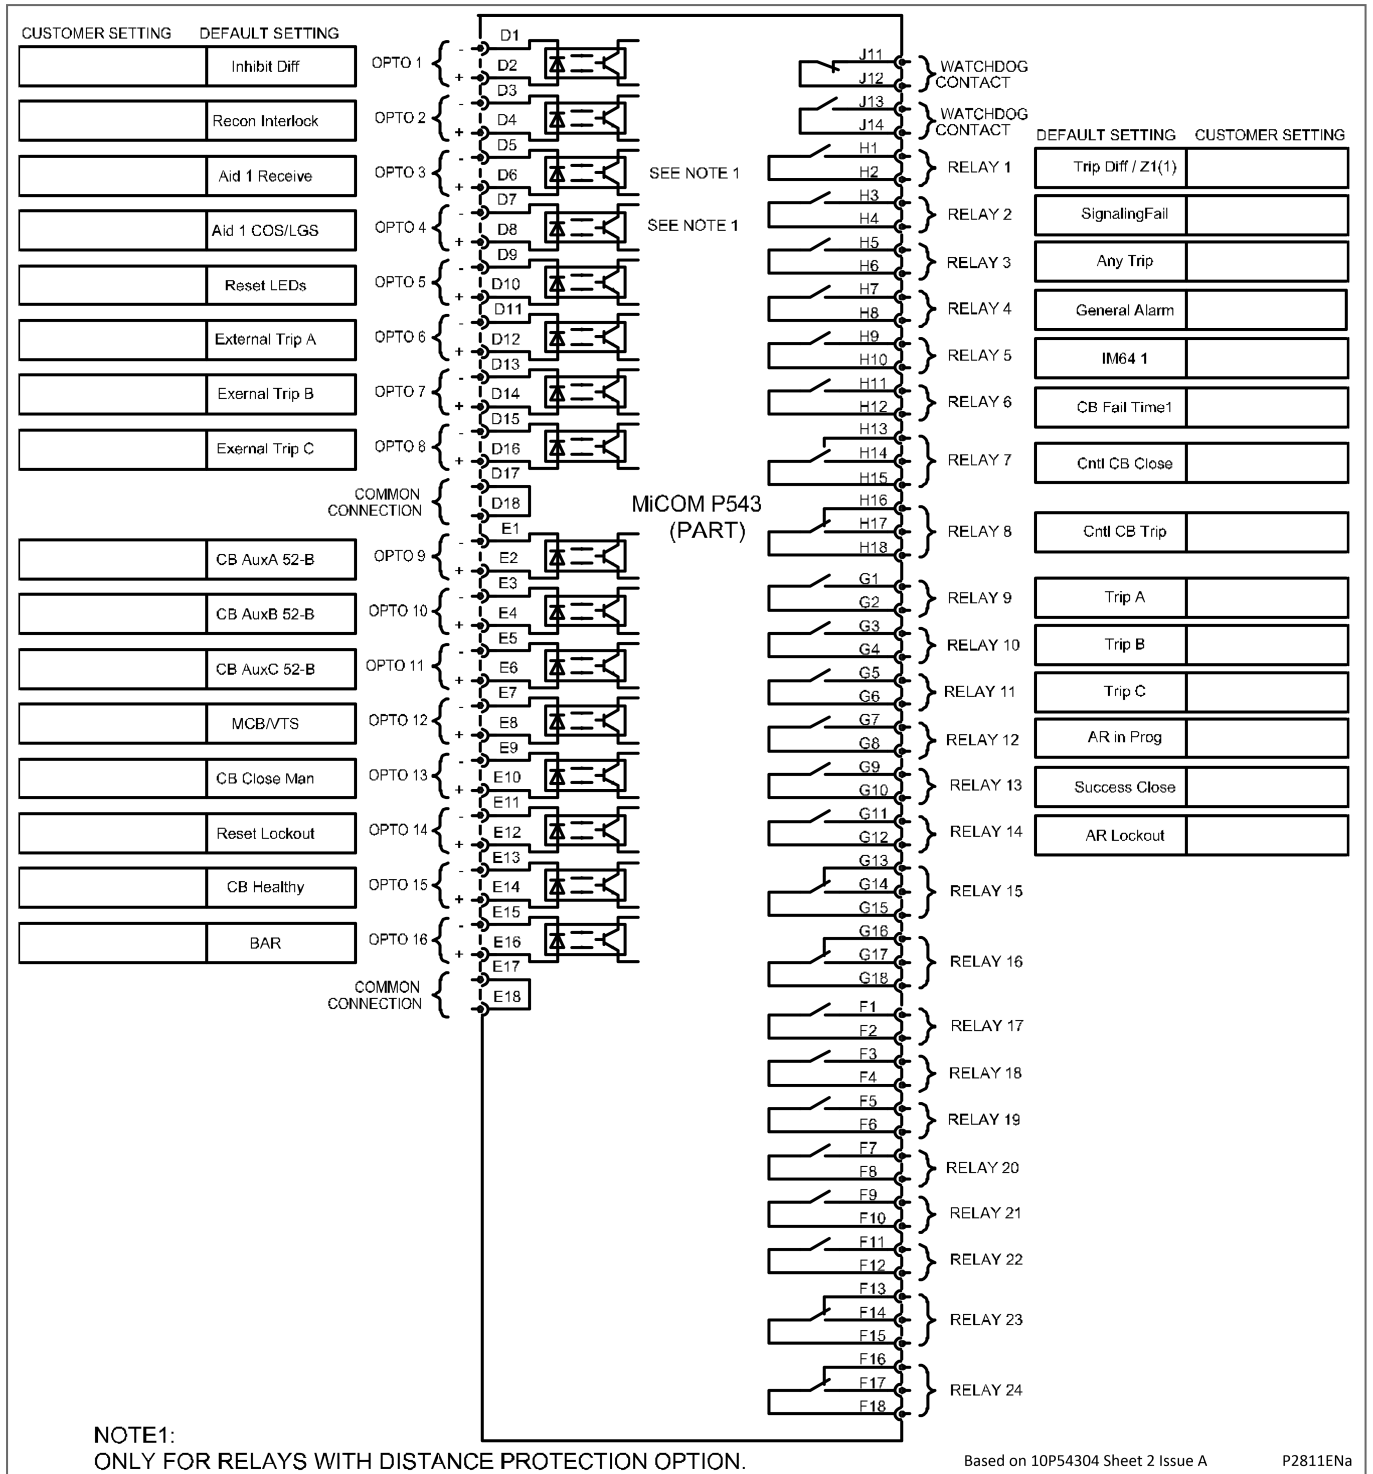

Figure 8 - P543 – 16 inputs/24 standard outputs default mapping
- Figure 8 - P543 – 16 inputs/24 standard outputs default mapping